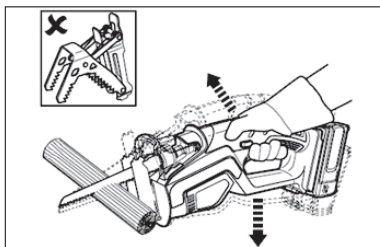

Fig. 18
4. Move the product in a swinging motion so the saw blade cuts through the workpiece with an even feed (Fig. 18).